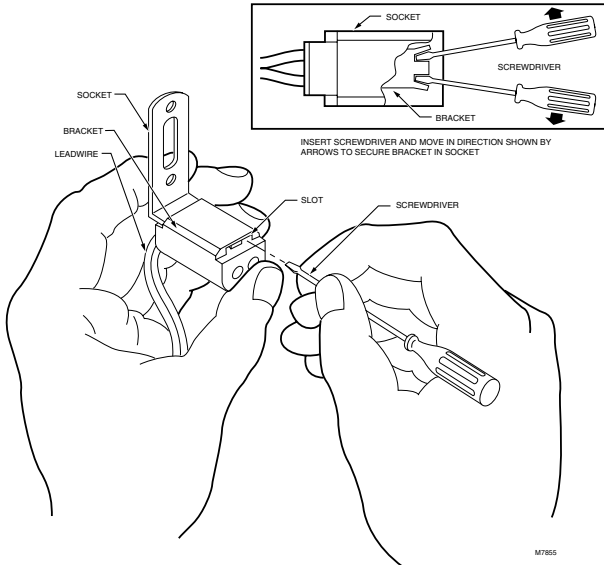

Fig. 4. Insert screwdriver to secure bracket in socket.
- 4 While holding the mounting bracket in the slot, insert the screwdriver in the other end of the slot (Fig. 4). Bend the screwdriver first to the left, then to the right, to crimp the end of the mounting bracket and hold it in position.